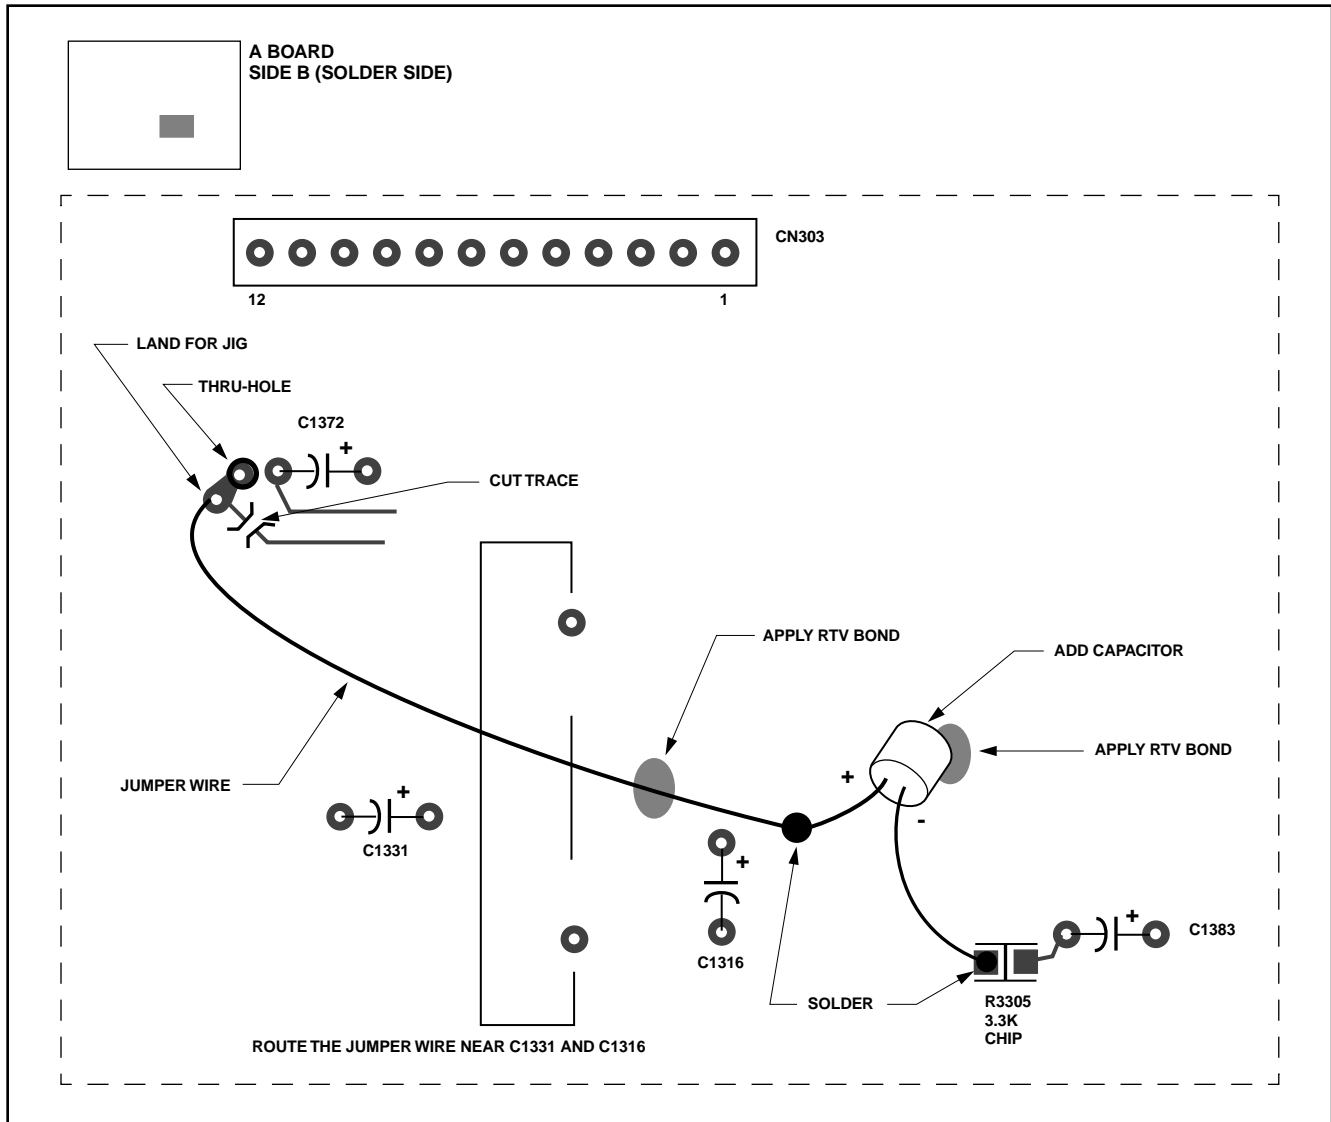

Figure 2
1. Cut trace (zone E-6) as shown in Figure 2.
3. Route the jumper near C1331 (zone F-6) and C1316 (Zone F-7) as shown in Figure 2.